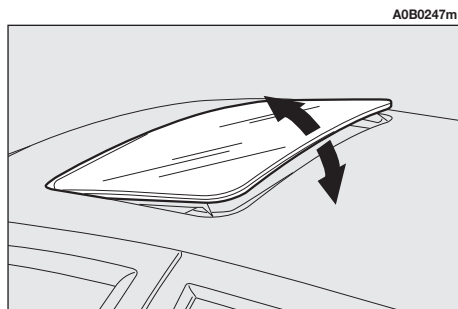
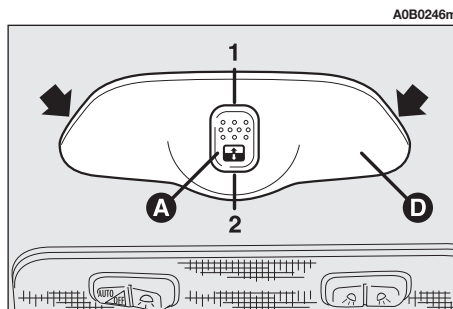

fig. 158
fig. 159
This can only be achieved **(fig. 158)** when the sunroof is completely closed, pressing front end **(2)** of the control button **(A-fig. 159)**.
Press the rear end **(1)** of the button **(A-fig. 159)** to return the sunroof to the horizontal position (roof closed).
- apply leverage to the points indicated by the arrows and remove the plate with switch (**D-fig. 159**);